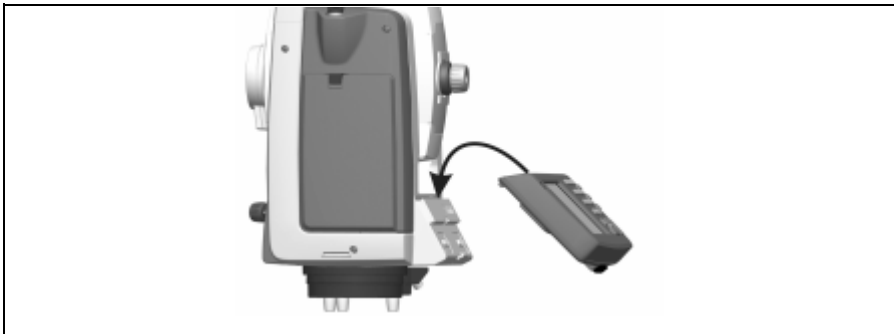

Figure 3.2 Attaching the CU
1. Hook the top of the CU over the top of the panel attachment. Figure 3.2.